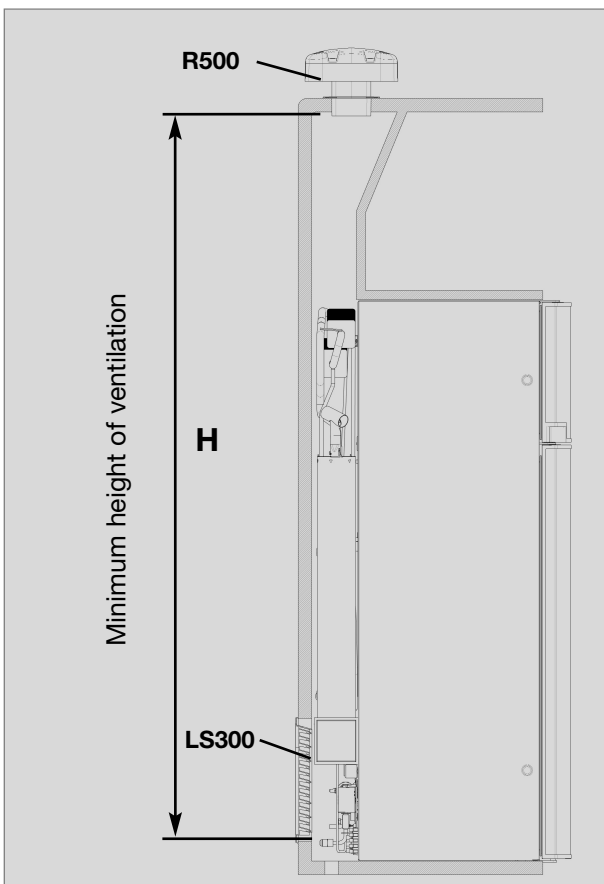
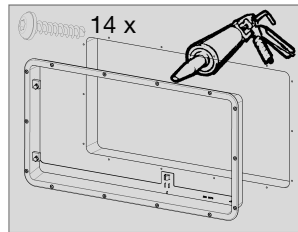

Fig. 13
Fig. 16
Ventilation is provided for the unit by means of two apertures in the caravan wall. Fresh air enters at the bottom, extracts the heat and exits through the upper vent grille (chimney effect). **The upper ventilation grille should be positioned as high as possible above the condenser (Fig. 13). Install the lower ventilation grille at floor level of the vehicle (Fig. 16), allowing unburnt gas (heavier than air) to escape directly into the open air. The gas burner must be located above the edge (1).**